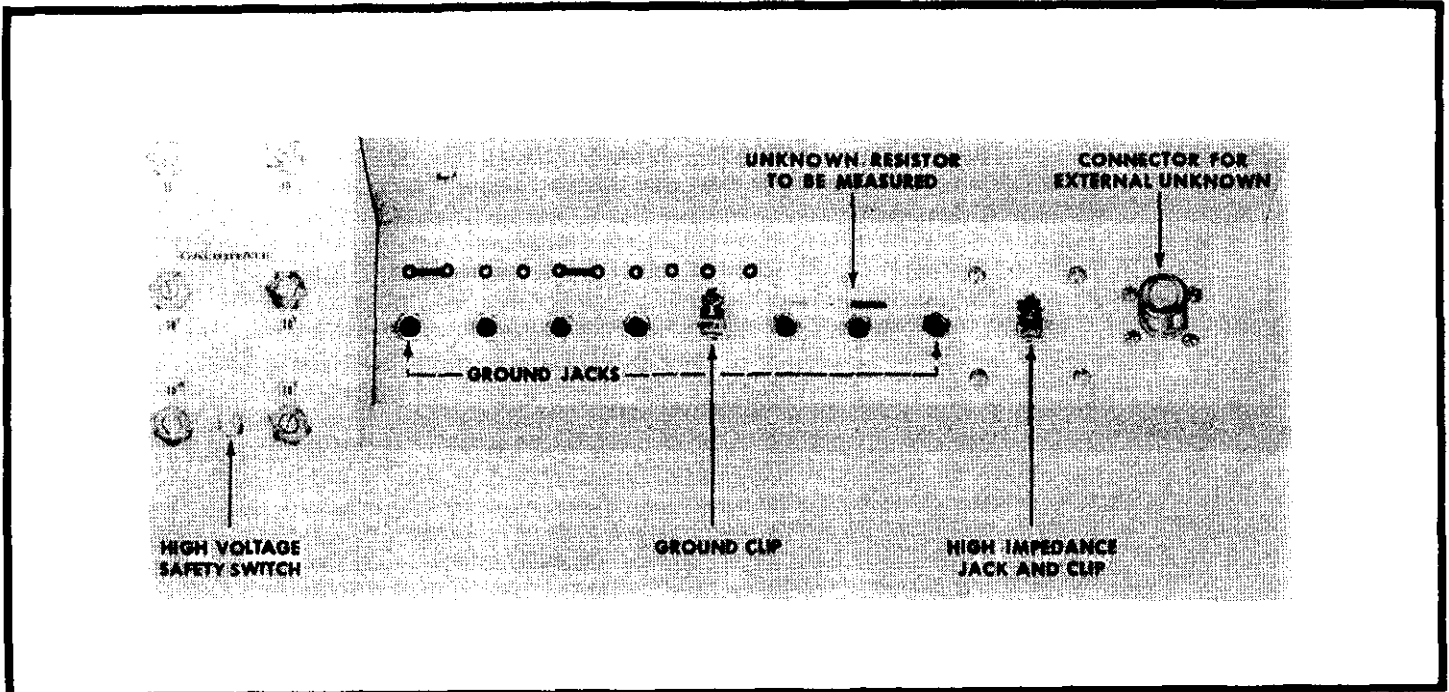

FIGURE 3. Shielded Measuring Compartment
1. Shielded Test Compartment. The Test Compartment shown in Figure 3 permits measurement of high resistance while minimizing noise pickup and the effects of leakage paths. Input connections can be made using a triaxial receptacle (EXTERNAL INPUT J303) or a guarded INPUT high receptacle (J302).
a.) High Megohm Resistors. Discrete resistors can be easily measured by connecting to the INPUT receptacle and any one of eight INPUT low receptacles. The receptacles are designed for use with test clips such as Grayhill #2-1 which have a banana plug on one end and a spring clip on the other. The INPUT low receptacles are spaced one inch apart for resistors up to 8 inches long. A typical resistor connection is shown in Figure 3.